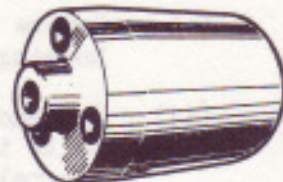

FIG. 28. TOOL USED TO PREVENT DAMAGE TO OIL SEAL WHEN ASSEMBLING IT TO THE SERVO SHAFT.
(vi) To prevent damage to the tip of the oil seal while entering it on to the servo drive shaft (69), a tapered plug should be used. Fig.28 shows a perspective view of a suitable plug, and Fig.29 is a detailed drawing of the plug.